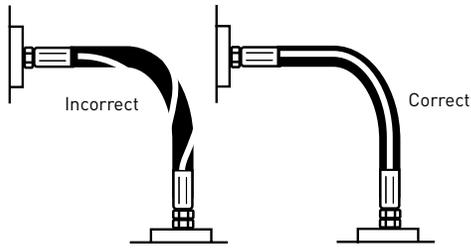

FIGURE 8 — TWIST ANGLE AND ORIENTATION
**7.3 Twist Angle and Orientation** – Pressure applied to a twisted hose may shorten the life of the hose or loosen the connections. To avoid twisting, use the hose lay line or marking as a reference (see Figure 8).